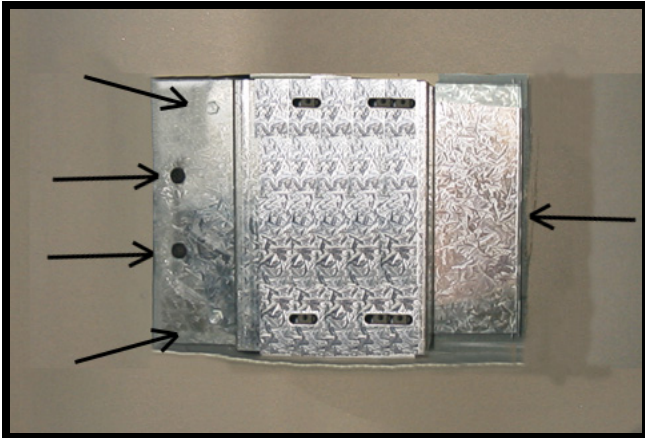

FIGURE 7
8. Remove and retain mounting bracket and screws (items 5&3 pg2) from console (item 6 pg2). Use rubbing alcohol to clean sheet metal in the cut-out area in headliner. Wipe surface dry with a clean cloth. Remove protective tape from adhesive strips on mounting bracket (item 5 pg2). **Make sure bracket is centered prior to pressing tape against roof surface. Once the tape is applied to the roof, DO NOT REMOVE AND REPOSITION or the tape will not stick properly.** Install using (2) two O.E. screws in original holes and (2) two # 10 x 1/2" TEK screws (item 2 pg2). See Figure 7.